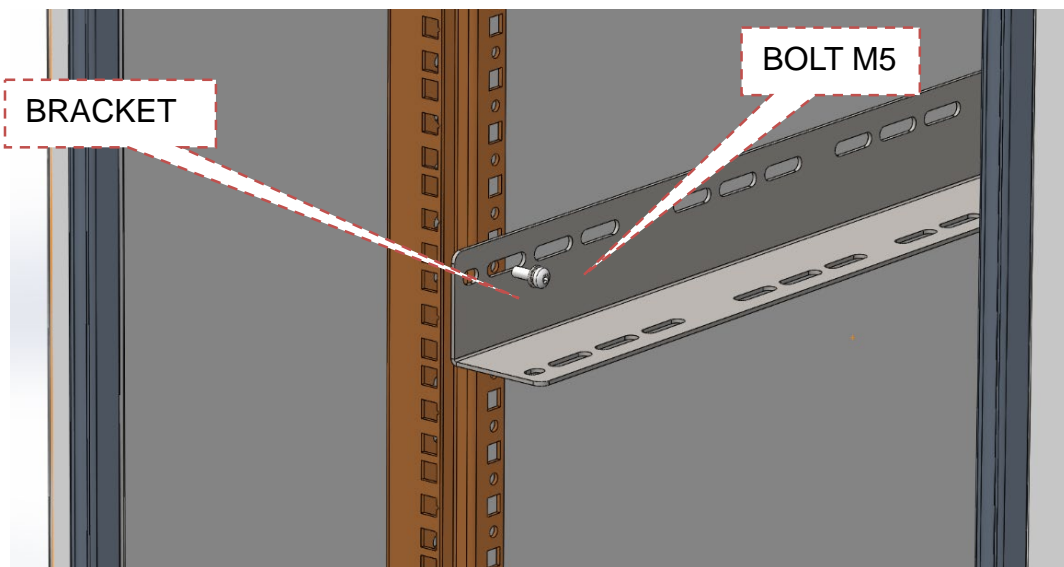

Figure 4-6 Drill holes and Install the Mounting rack on wall
1. Install bracket on the cabinet with the screw. as shown in Figure 4-5. Attention: Please pay attention to mounting of bracket. as shown in Figure 4-6.